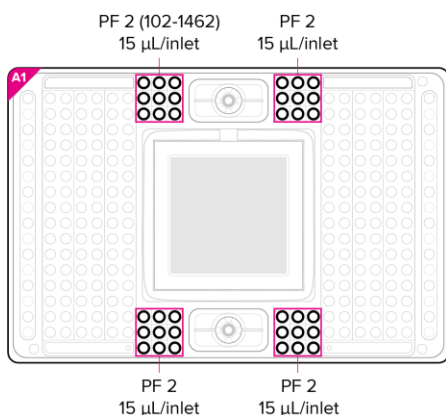

Figure 7. Pipetting map for PF 2
- 1 Pipet 15 μL of Advanta Dx PF 2 (102-1462) in the 36 inlets (○) adjacent to each accumulator, as shown in Figure 7.